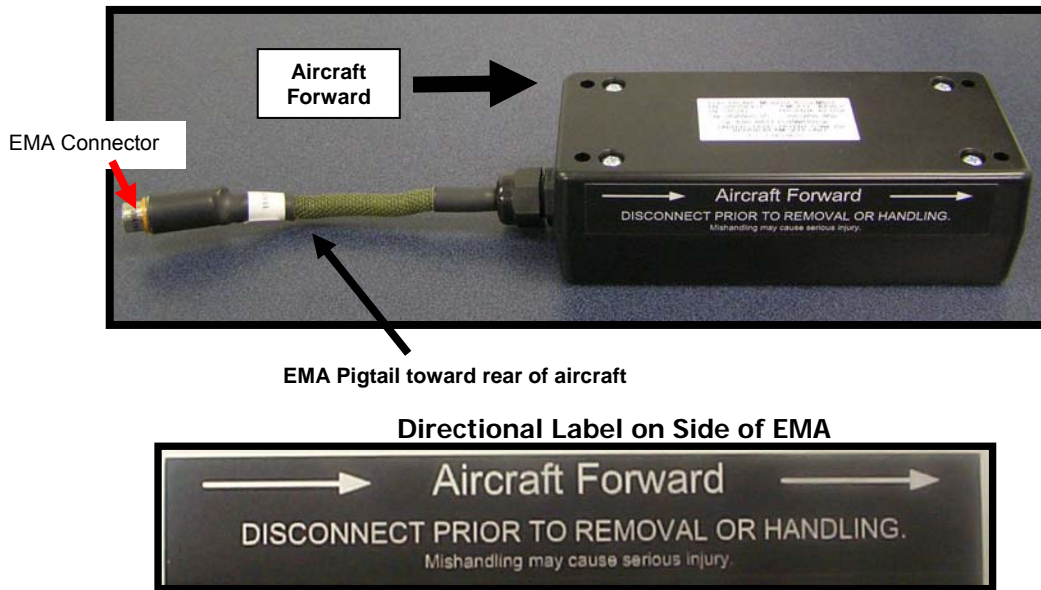

Figure 9 – Typical EMA Aircraft Forward Installation
3. Attach **EMA** (50) with mounting hardware and secure (refer to Sport Cub AmSafe Airbag system installation drawing). The arrow on the **EMA** label should face aircraft forward (see Figure 9).
5. Connect **EMA** to **Cable Interface Assy's** EMA connector (Figure 9). The connectors are keyed. Align connector halves and seat fully until they lock.